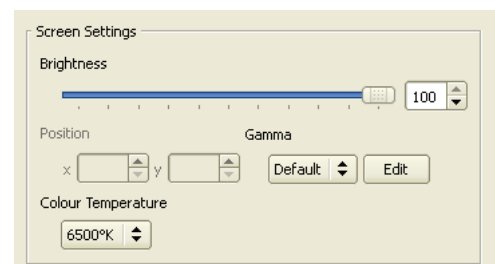

Figure 30: View buttons
1. See Figure 30. In **Screen Settings** in the **Video Input** view you can adjust the brightness of the entire installation using the **Brightness** slider.